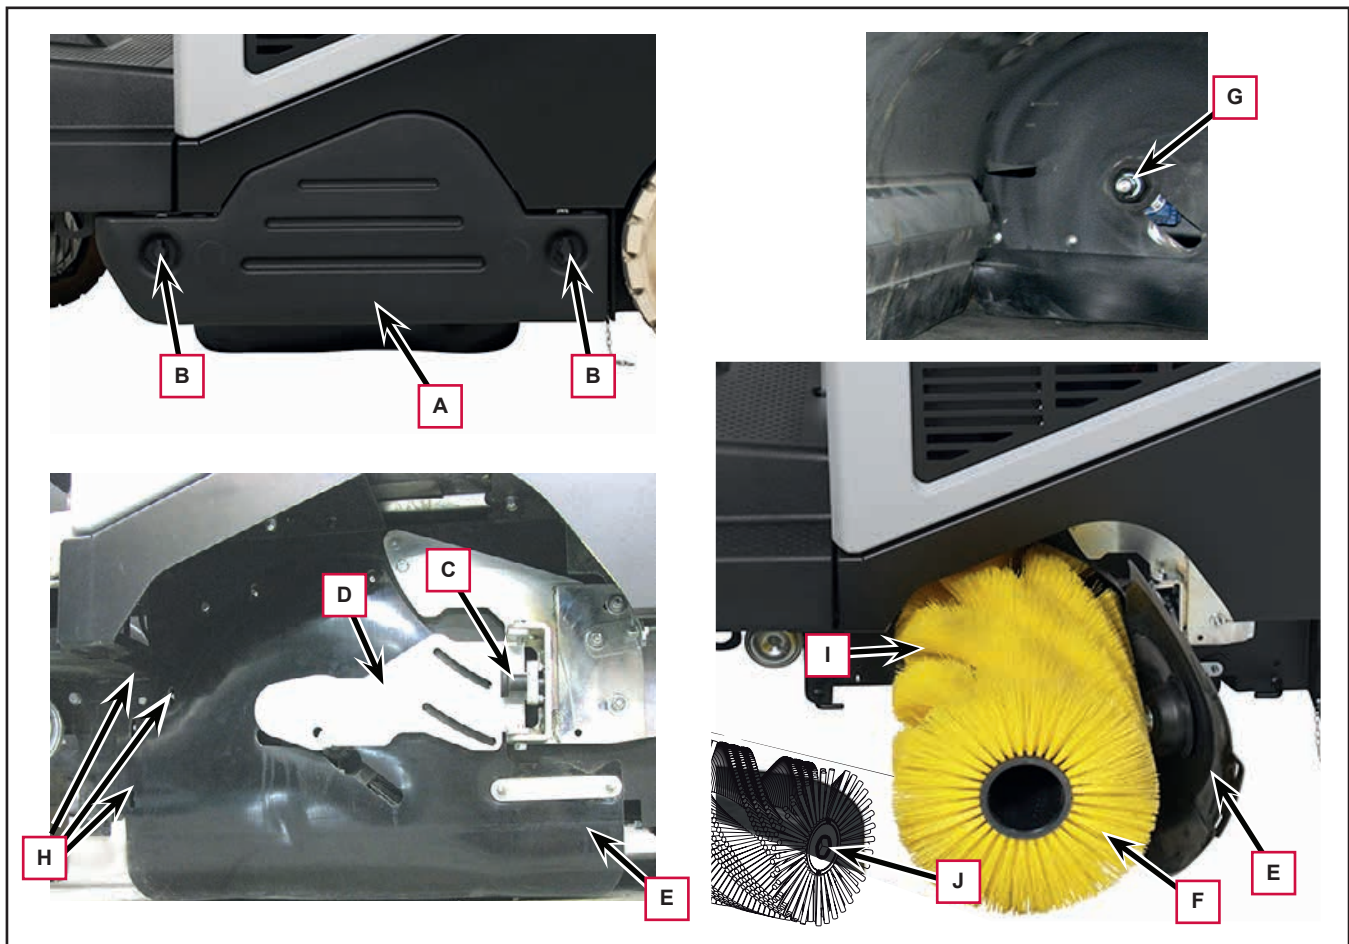

Figure 11
9. The main broom must be installed with the bristles (I, Figure 11) oriented as shown in the figure.
10. Install the new main broom and ensure that the hexagonal mesh (J) fits into the relevant drive hub (G).
11. Turn and close the closing support (D) together with the left side skirt (E), until the knob (C) clicks; attach the left side skirt (E) to the various fasteners (H).
12. Refit the left door (A) and turn the fasteners (B) back into the closed position.